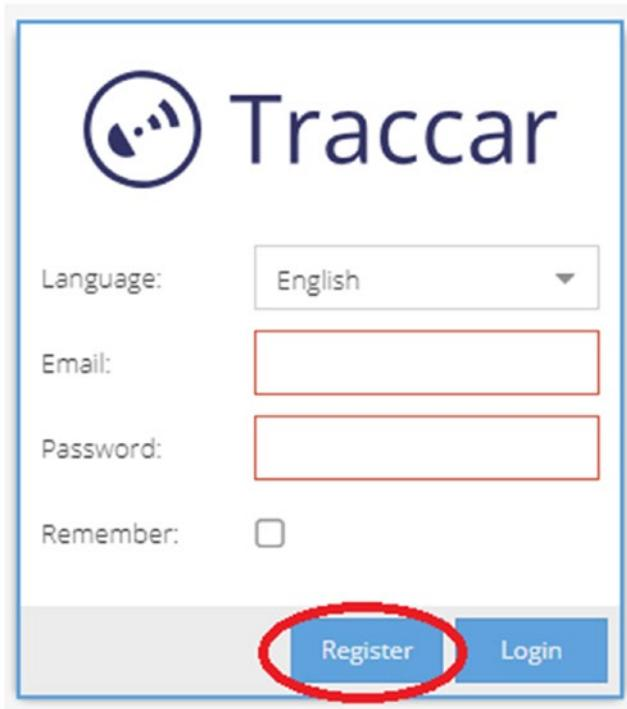

Figure 8-54. Registering with Traccar server, step 1
1. Go to <http://demo.traccar.org/> and click the Register button (Figure 8-54).